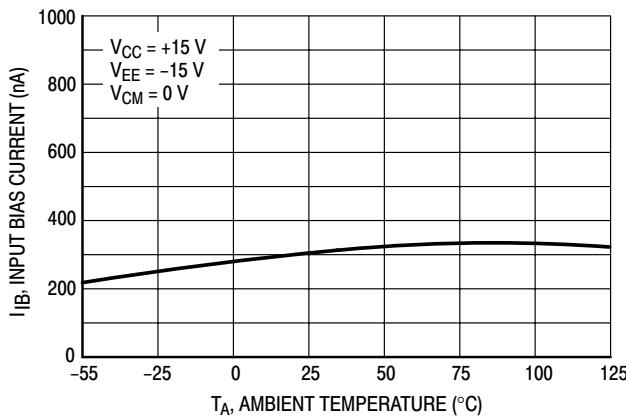

**Figure 2. Maximum Power Dissipation versus Temperature**
2. Power dissipation must be considered to ensure maximum junction temperature ( $T_J$ ) is not exceeded (See power dissipation performance characteristic, Figure 2).